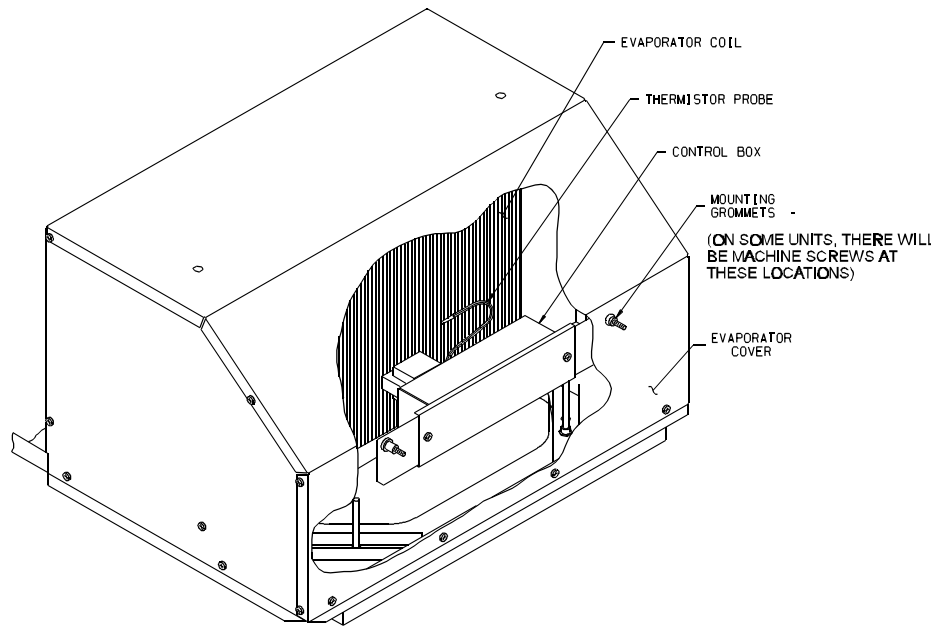

FIGURE 2
5. Insert the freeze circuit thermistor probe into the roof top unit evaporator coil. Verify that the probe is located in the coil properly (See Figure 2). Connectors of probe attach to wirebox low voltage terminals F and F without regard to polarity.
B. Mounting The Wirebox (See Figure 2)
- (a) With a pencil, clear the two holes of aluminum in the evaporator cover of the upper unit. The aluminum will easily puncture. Place the wirebox into the rectangular area in the upper unit return air opening and insert each of the rubber nuts into the holes in the evaporator cover. The transformer will be at the end of the wirebox. See Figure 2.